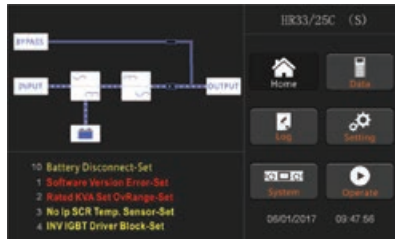

Fig.5-5 Interface of normal mode
- Close the external battery switch, the battery indicator flashes, and then the UPS charges the battery. The UPS works in normal mode. As shown in Figure 5-5